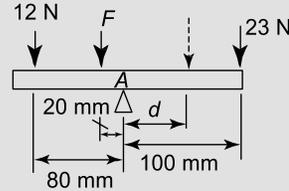

Figure 5.5
**Problem 4.** A beam is supported on its fulcrum at the point A, which is at mid-span, and forces act as shown in Figure 5.5. Calculate (a) force  $F$  for the beam to be in equilibrium (b) the new position of the 23 N force when  $F$  is decreased to 21 N, if equilibrium is to be maintained.